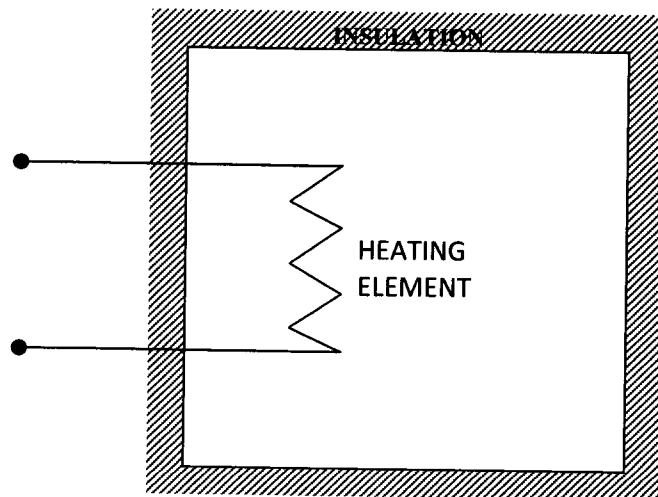

FIGURE Q2
- (b) A rigid tank is filled with liquid water and water vapour at 513.15 K and 3347 kPa. The tank is connected to a heating element and the outside of the tank is insulated as shown in **FIGURE Q2**. The mass of the liquid water is equal to the water vapour which is 2 kg. The inside of the tank is then heated to a temperature which is double to the initial temperature.